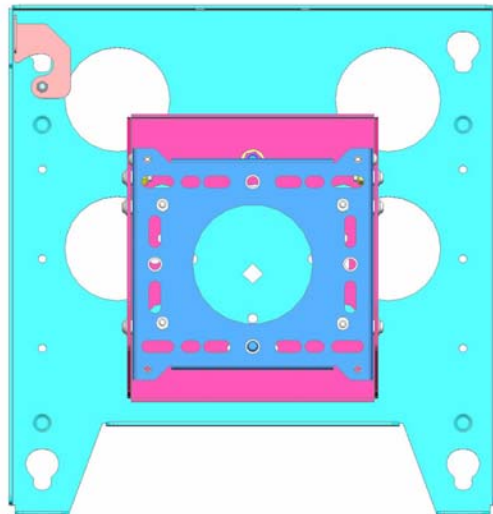
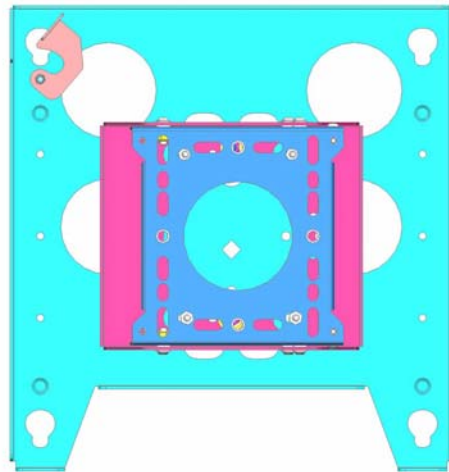
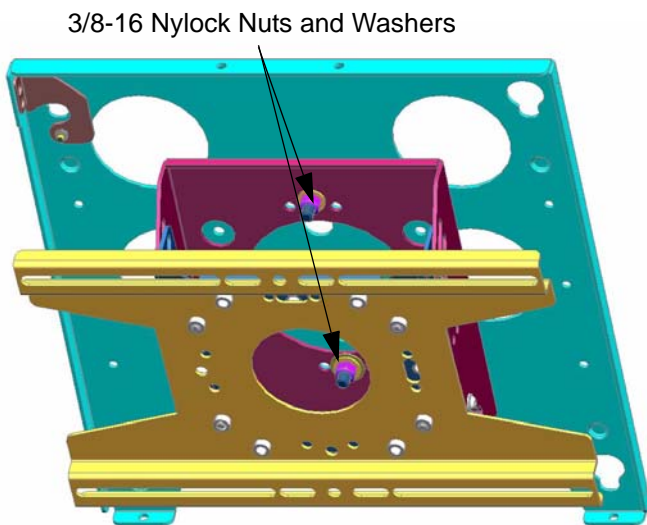
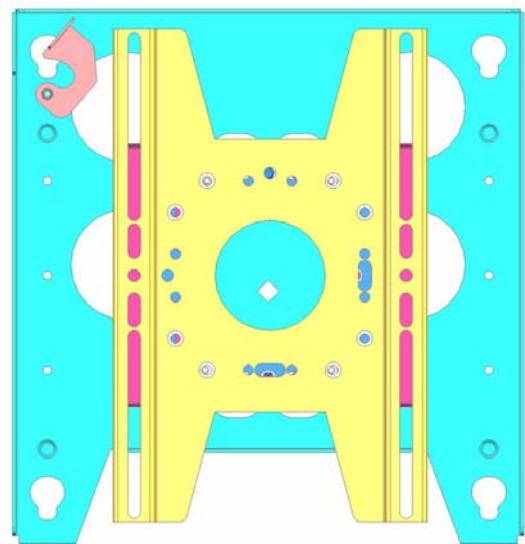

Figure 4. Vertical Tilt Shown without Back Plate for Clarity
Figure 5. Horizontal Tilt Shown without Back Plate for Clarity
Figure 6. Vertical Truss Shown with Back Plate
Figure 7. Horizontal Truss Shown with Back Plate
- Install the face plate in the desired position (see Figure 4, Figure 5, Figure 6 and Figure 7) on the pitch-adjustable plate and secure using two 3/8-16 Nylock nuts and washers in any matching set of radial holes slotted to allow slight roll adjustment.